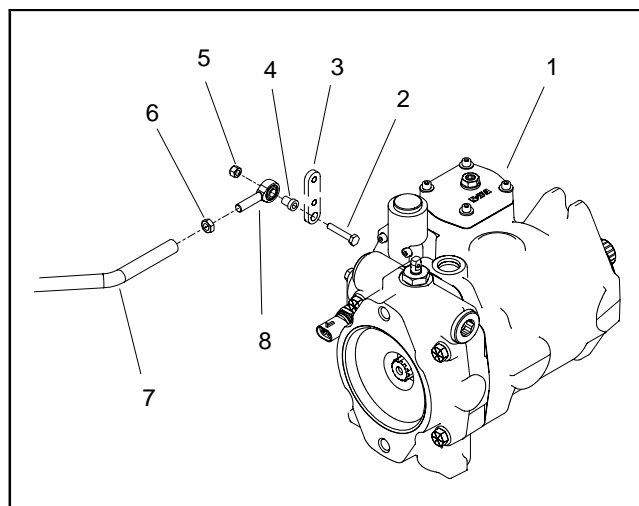

Figure 54
3. Remove traction rod from control arm on piston pump by removing lock nut, spacer and cap screw (Fig. 54).
2. While maintaining pump alignment with spring coupler and flywheel plate, install two (2) cap screws and washers to secure piston pump to engine flywheel plate. Torque screws from **79 to 84 ft-lb (108 to 113 N-m)**.
4. Position traction rod to control arm on piston pump by installing cap screw, spacer and lock nut (Fig. 54).